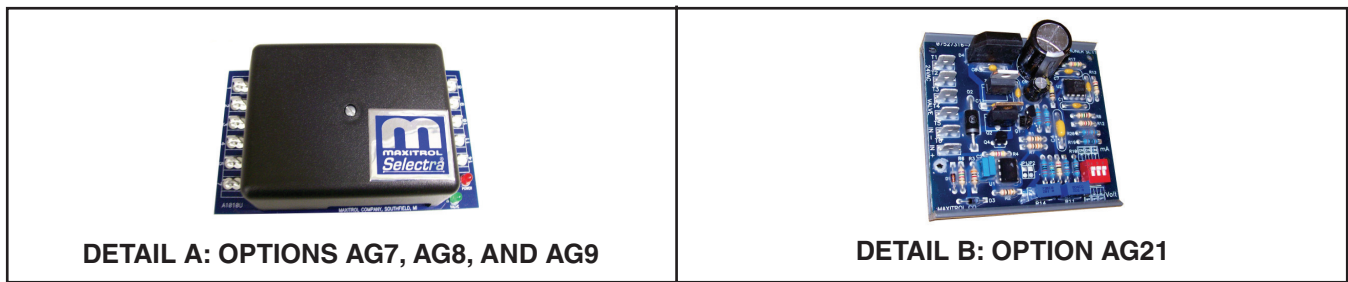

Figure 21. Electronic Modulation Options
- See Figure 21, DETAIL A.
- See Figure 21, DETAIL B.